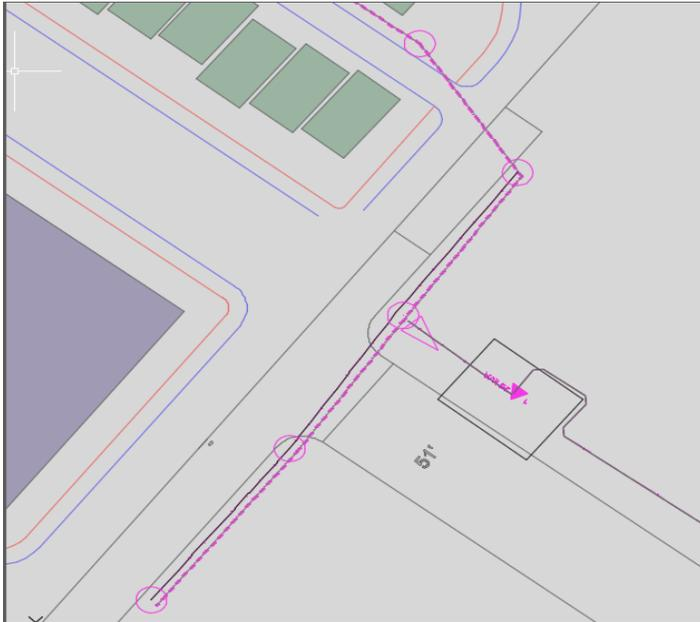

Figure 8 - Electrical Features inserted into AUD from an independent GIS
- 3) Once complete, the data that resides in the GIS has been transformed to AUD features using the rules defined in the chosen profile (e.g. SCL3). Figure 8 shows the inserted poles, conductors and transformers among other AUD features.